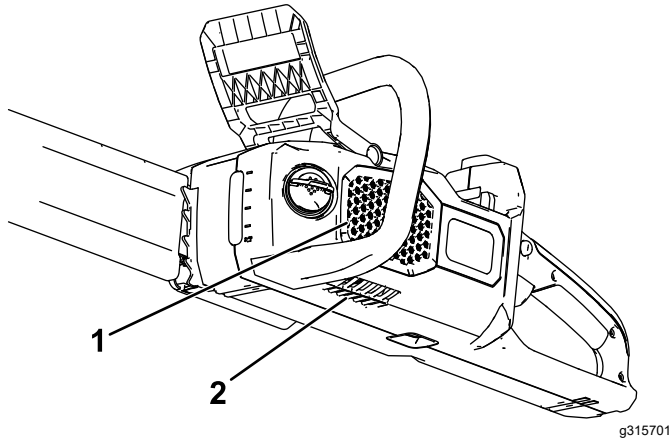

Figure 7
1. Ensure that the vents on the chain saw are free from dust and debris (Figure 7).